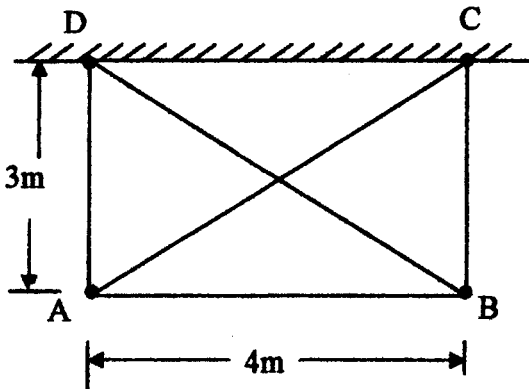

Fig. Q.10
Q.10) In the pin jointed frame shown in Fig. Q.10, member AD had a lack of fit. It was longer than the required length by 2mm. Find the forces in the members when the member AD is forced into position. The diagonal members are each 12cm^2 in area, while the remaining members are 20cm^2 in area. Given $E = 2 \times 10^5 \text{ N/mm}^2$. (11)